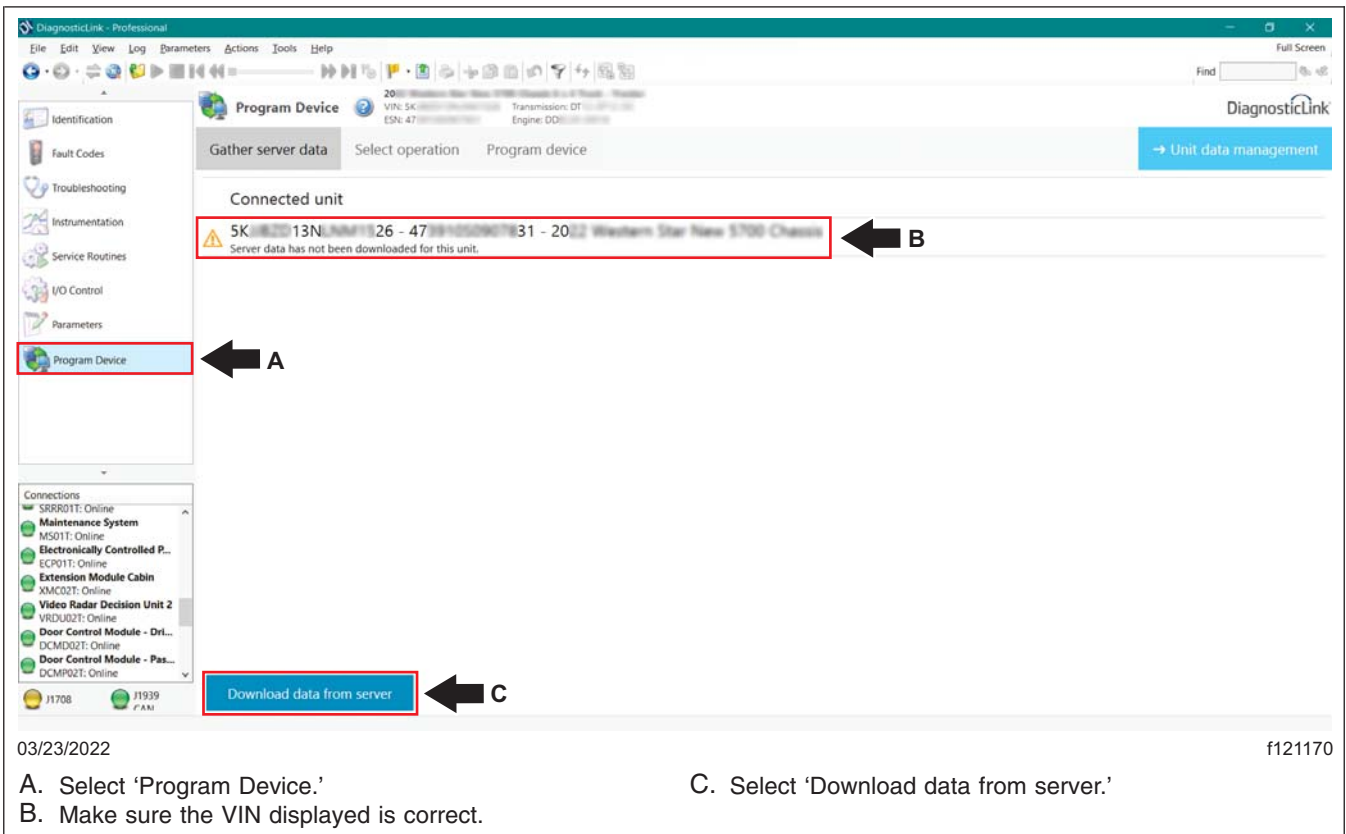

Fig. 25, Downloading Vehicle Data
- 21.4 Go to the 'Program Device' tab, and make sure that the vehicle identification number (VIN) is correct. Select 'Download data from server.' See **Fig. 25**.